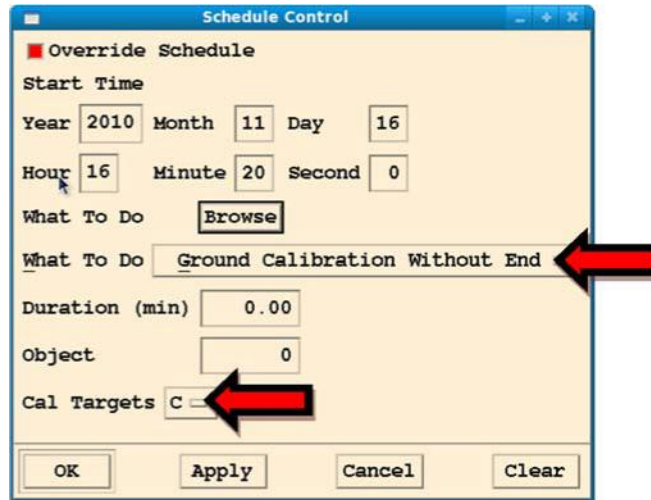

Figure 6-10: Schedule control window
6. Open the **Schedule** window and configure for Ground Calibration (Figure 6-10)